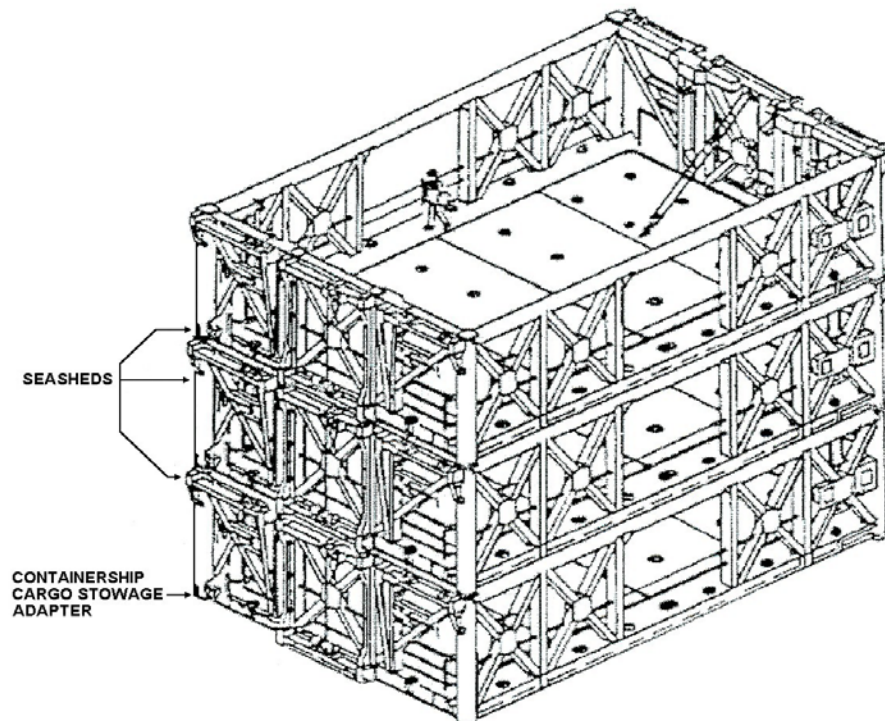

Figure 3-49
1. Operate seasheds system (see Figure 3-49).